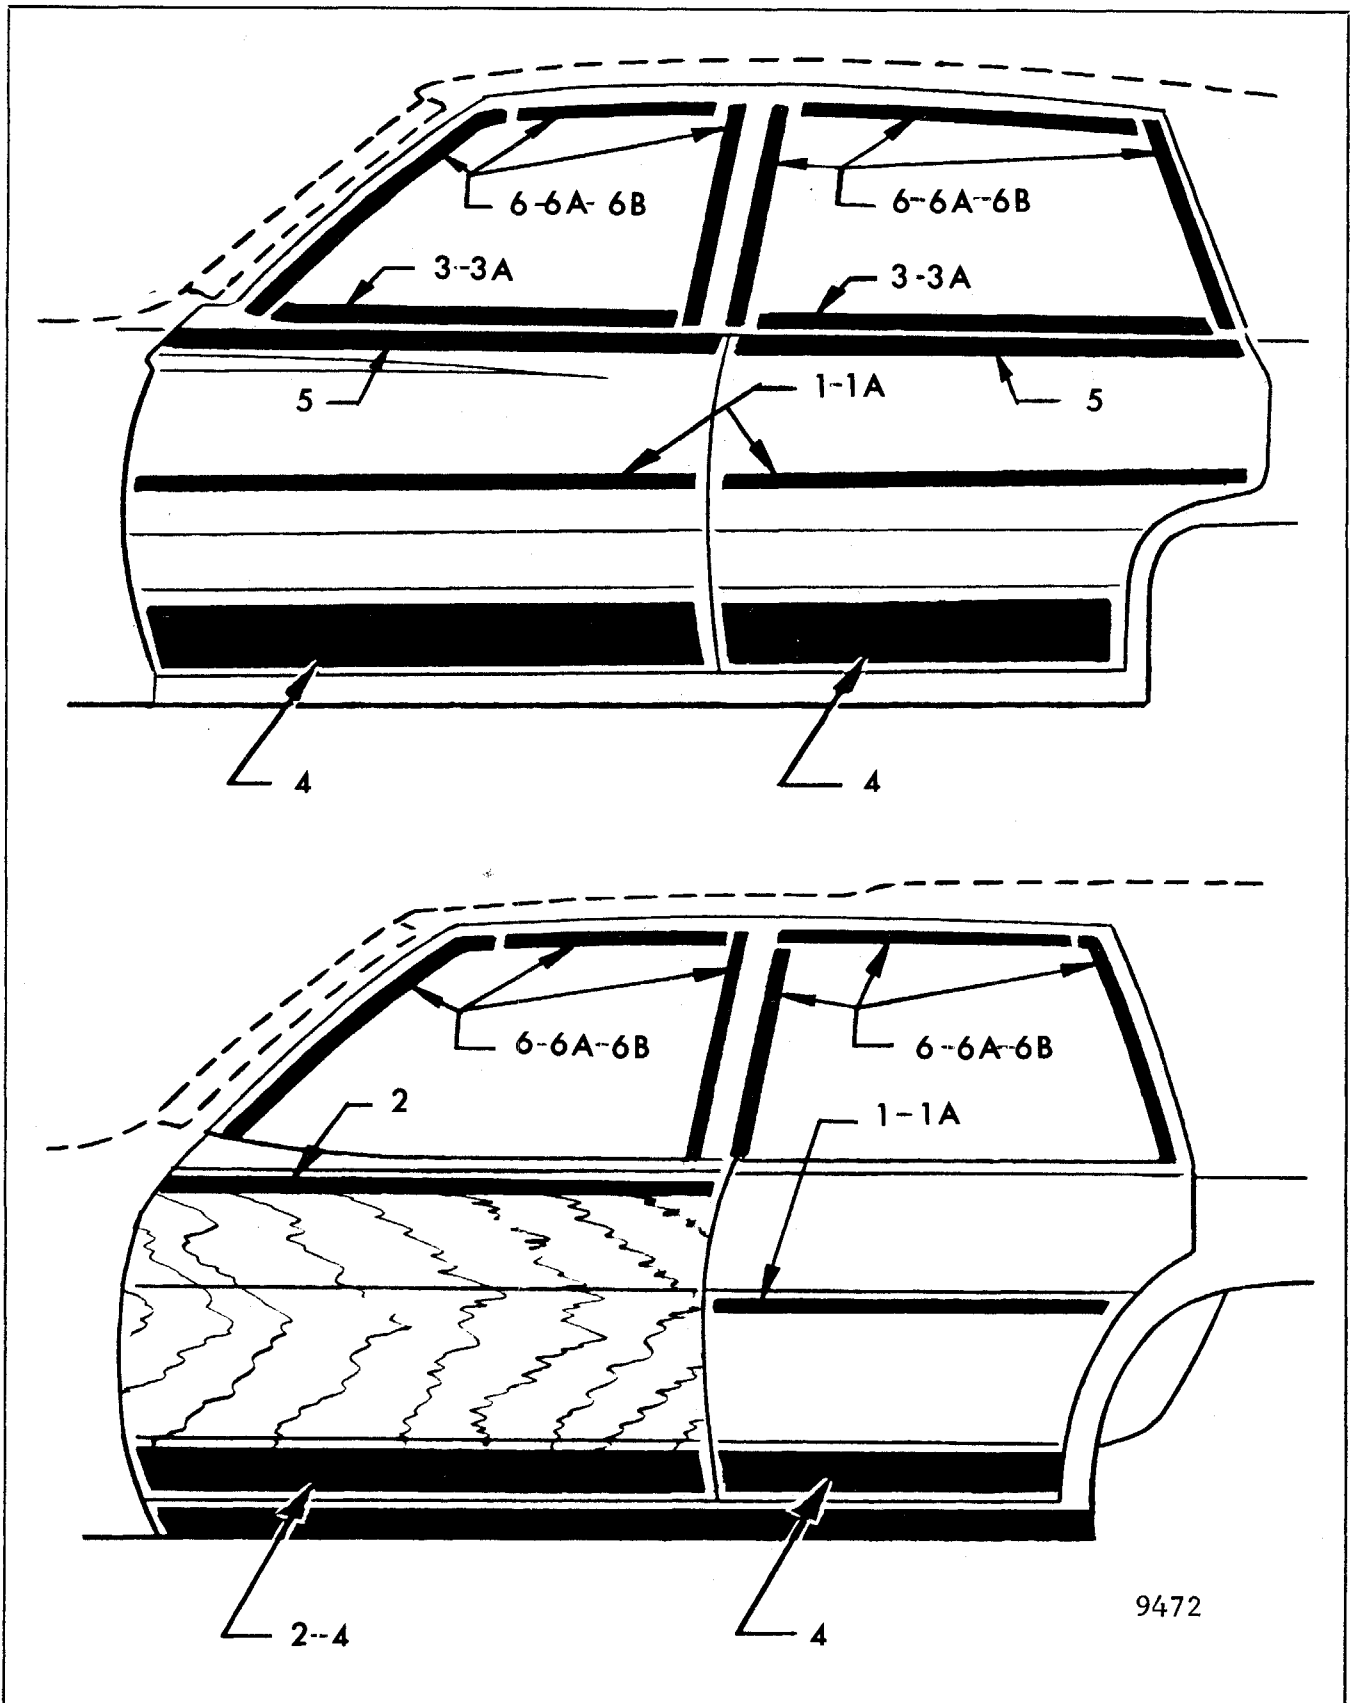

Fig. 5-31 - Typical Door Exterior Moldings
Figure 5-31 identifies all typical door exterior moldings by number. Molding installation chart (Figure 5-32) identifies molding description and specific attachment.
1. Using typical exterior molding illustration (Fig. 5-31), locate number of specific molding(s).